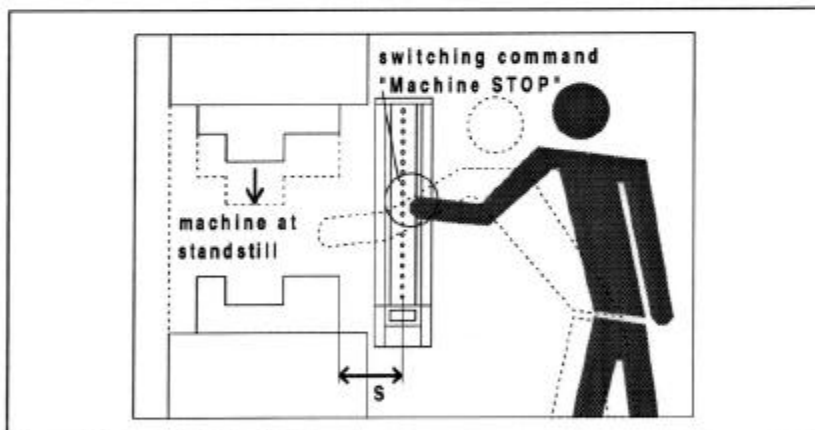

Figure 4-2 Safety distance
2. A sufficient safety distance must be maintained between the sensing zone and the nearest danger point (Figure 4-2) and